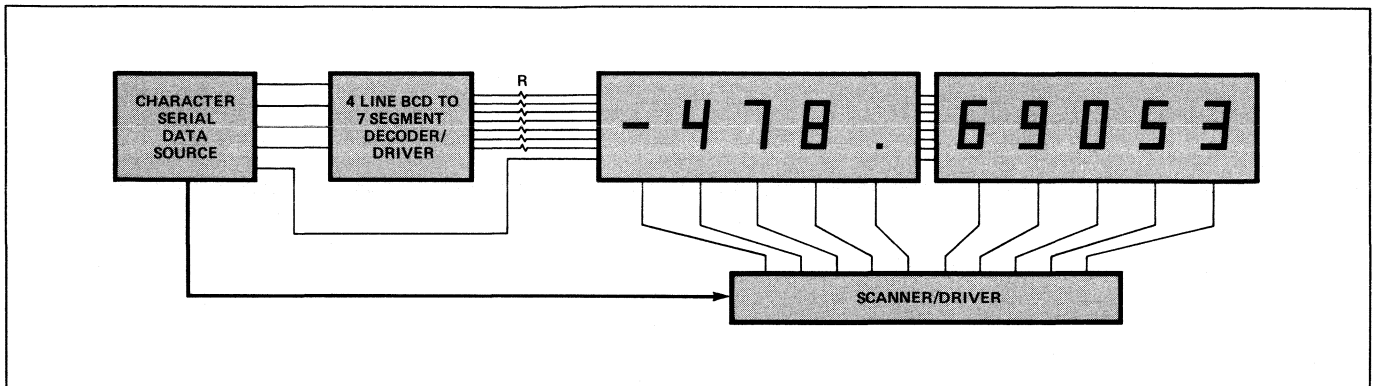

Figure 5b. Block Diagram for Display Using Center Decimal Point.
-7402, -7403, -7404, and -7405 displays contain a centrally located decimal point which is activated in place of a digit. A typical display system for this technique is outlined in Figure 5b.